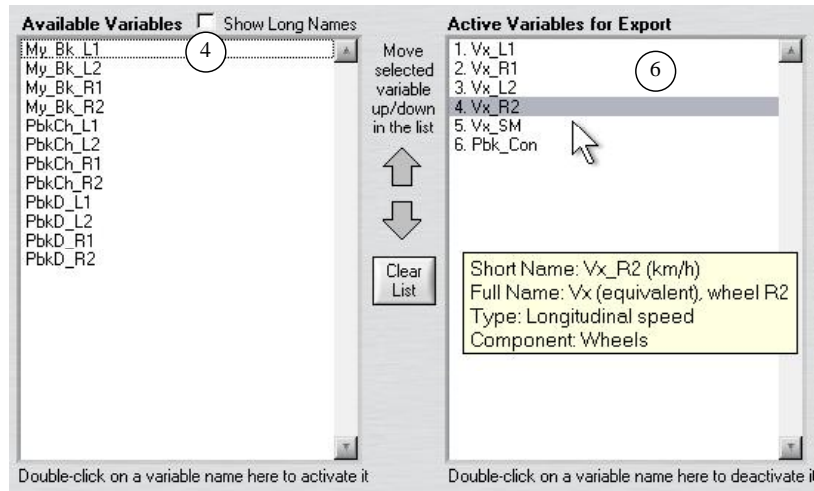

Figure 9. Display of output variables using short names.
Because the variables available for export are also available for plotting, there is additional information for each variable that provides more options for browsing. For example, each variable has a short name (limited to 8 characters) and a full name (limited to 32 characters). You can view the variables using either name, choosing your option with the **Show Long Names** checkbox (4). Figure 9 shows the fields with the box unchecked for this example.